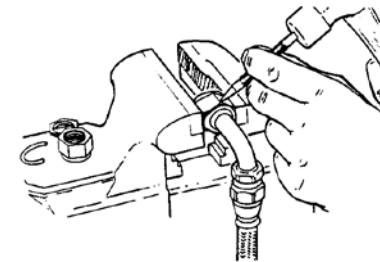

Figure 11 - Setting Retaining Wire With Punch
- d. Set retaining wire with a punch (Figure 11).